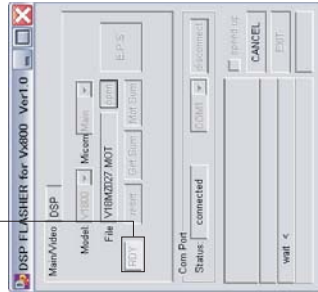

Fig. 7
- 4. Press the [RDY] button. (Fig. 7)